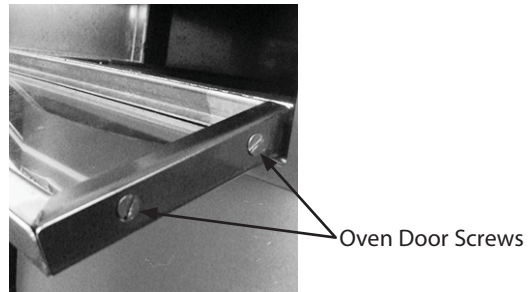

Figure 3: Oven Door Screw Location
1. While the oven is off and cool, open the oven door (Figure 3).
2. Using a flat-head screwdriver, remove the two screws on the outside of the oven door (Figure 3).